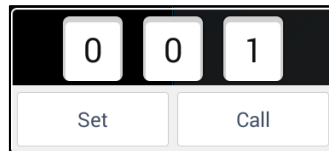

Figure 4.45 Setting a Preset
2. Click to access the dialog box shown in Figure 4.45.